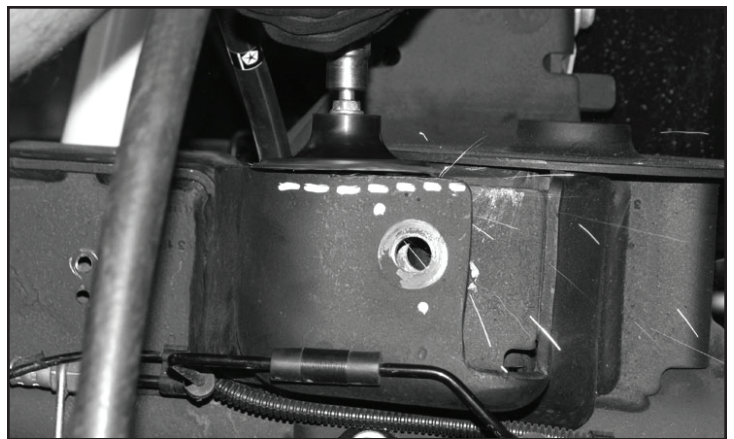

FIGURE 74 - STEP 66
66. Locate the FT44269BK rear track bar support bracket. TRIMMING MAY BE REQUIRED TO INSTALL THE NEW FT44269BK REAR TRACK BAR SUPPORT BRACKET. **SEE FIGURE 74**